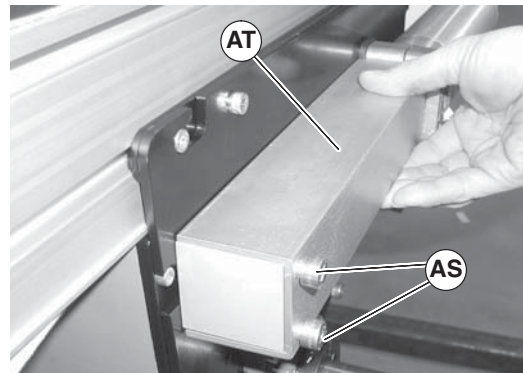

Figure 22
5. Remove screws (Figure 22, item AS) and tensioning guards (AT) from both sides of center drive.